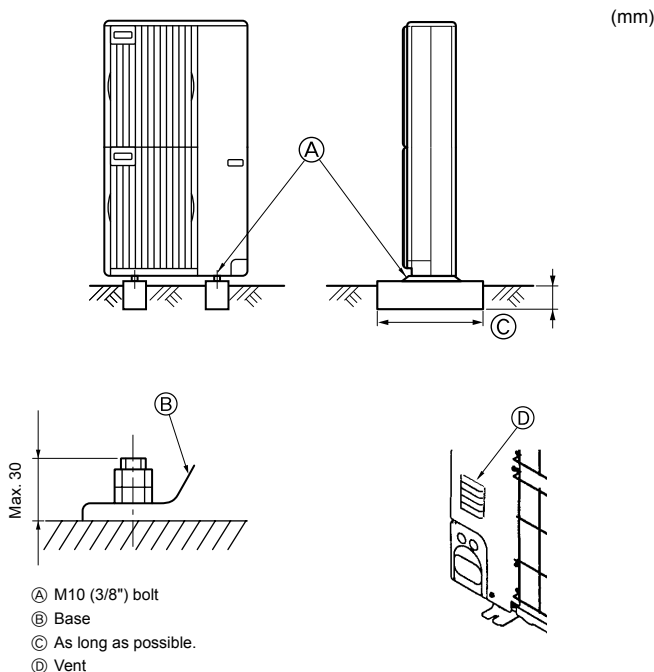

Fig. 3-1
- * Be sure to install the unit in a sturdy, level surface to prevent rattling noises during operation. (Fig. 3-1)